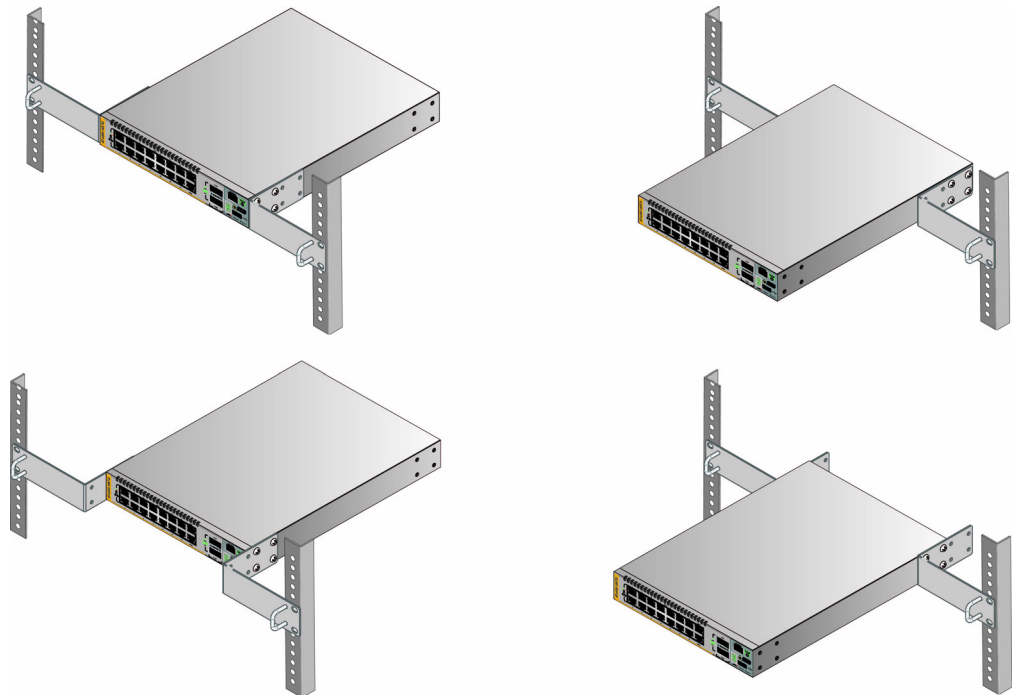
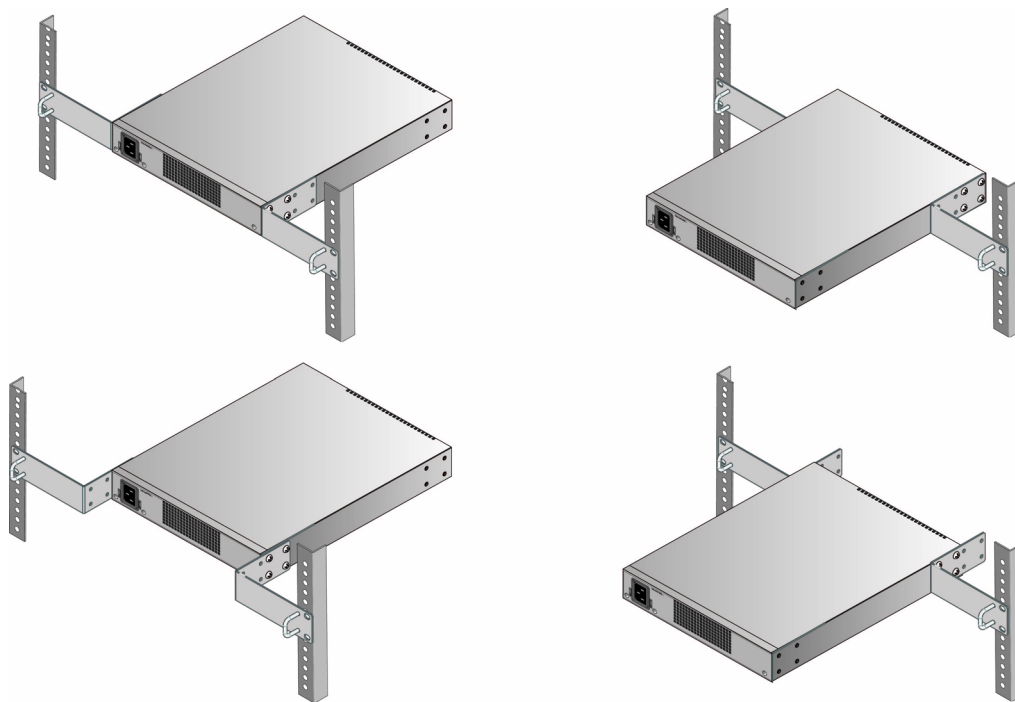
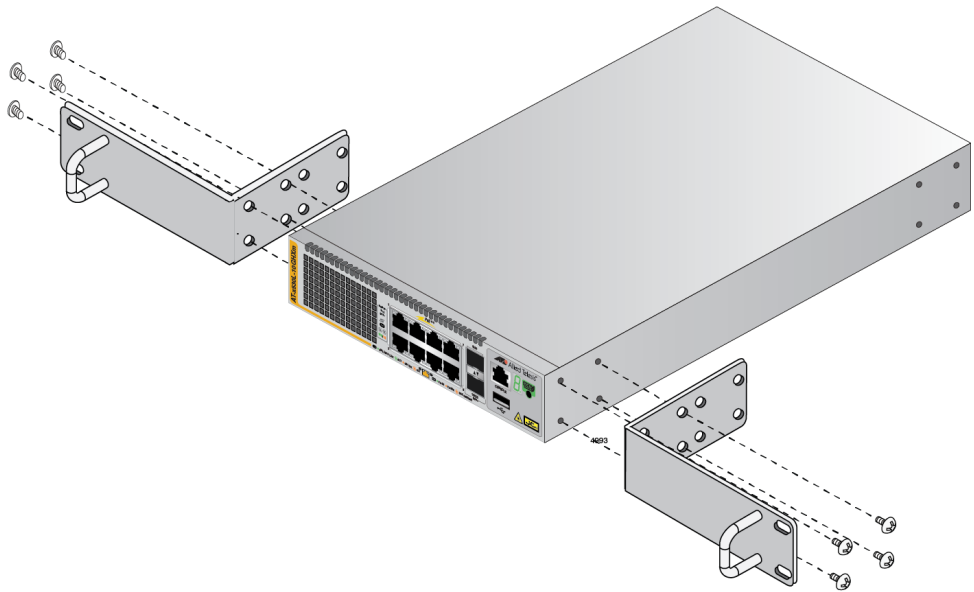

Figure 38. Switch Orientations with the Front Panel Facing the Front of the Equipment Rack
Figure 39. Switch Orientations with the Rear Panel Facing the Front of the Equipment Rack
Figure 41. Attaching the RKMT-J14 Brackets to the Switch
You can use the different sets of holes on the switch and brackets to install the switch in the equipment rack in a variety of orientations. You can install it with the front panel flush with, extending in front of, or recessed behind the front of the equipment rack. The illustrations in Figure 38 show the switch orientations with the front panel facing the front of the equipment rack.
You can also orient the switch with the rear panel facing the front of the equipment rack. Refer to Figure 39.
3. Attach the two brackets to the sides of the switch in the selected position, using the eight M4x6mm screws included with the unit. (Refer to Figure 38 on page 77 and Figure 39 on page 78.) The illustration in Figure 41 shows the installation of the brackets such that the front panel of the switch is even with the front of the equipment rack.